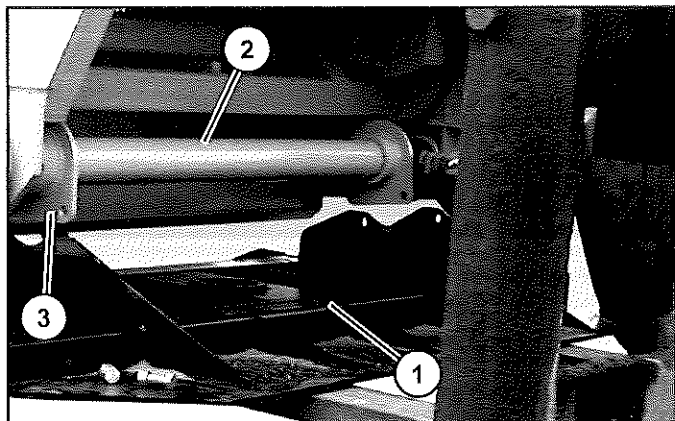

Figure 10
2. Install the pivot plate (Item 1) by lifting up the pivot plate to the pin shaft (Item 2) under the tail of the conveyor. Bolt the pivot plate to the tabs (Item 3) with the supplied bolts (Figure 10).